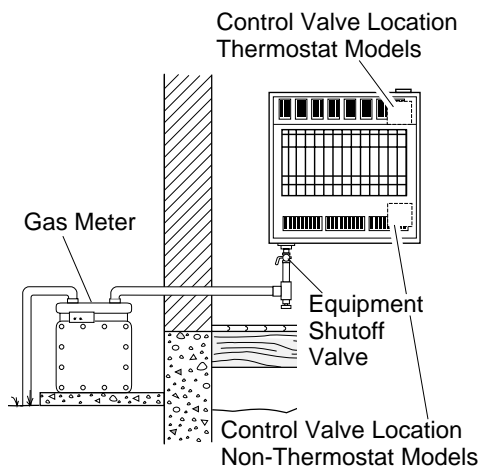

Figure 16 - Checking Gas Joints
3. Check all joints from gas meter to equipment shutoff valve (see Figure 16). Apply mixture of liquid soap and water to gas joints. Bubbles forming show a leak.